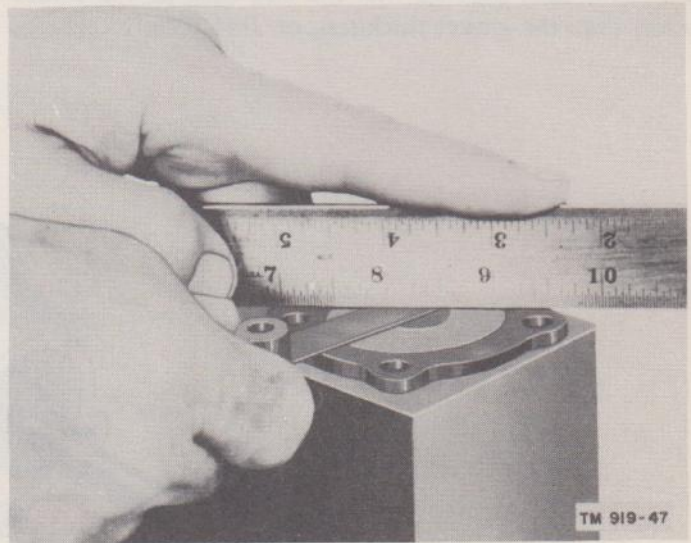

Figure 47. Checking oil pump cover.
(5) Examine the inner surface of the cover for scoring or scratches. Check flatness of the cover as shown in figure 47. It must be flat within .001 inch. The thickness of the rotors must be within .001 inch of each other. Assemble the rotors in the pump body and install the cover without the gasket. Tighten the cover screws to normal tension. It should now be impossible to turn the pump shaft by hand. Remove the cover and replace it with the gasket in position. The rotors should now turn with ease, proving that the end float of the rotors is less than the gasket thickness, or .004 inch.